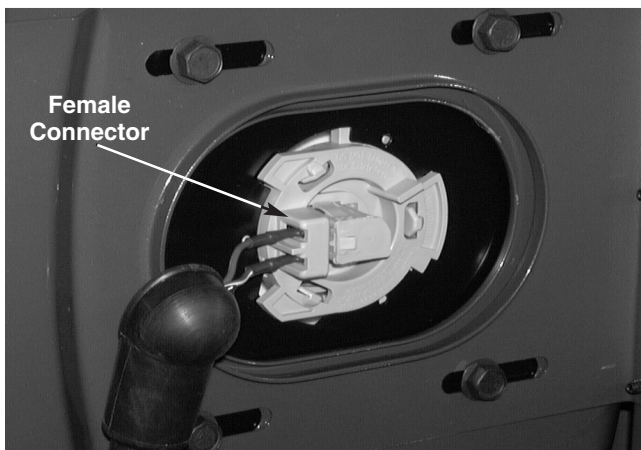

FIGURE 8.
- 25). Raise the hood, remove one of the wiring harness female connectors from the seat switch, and lower the hood. See Figure 8.